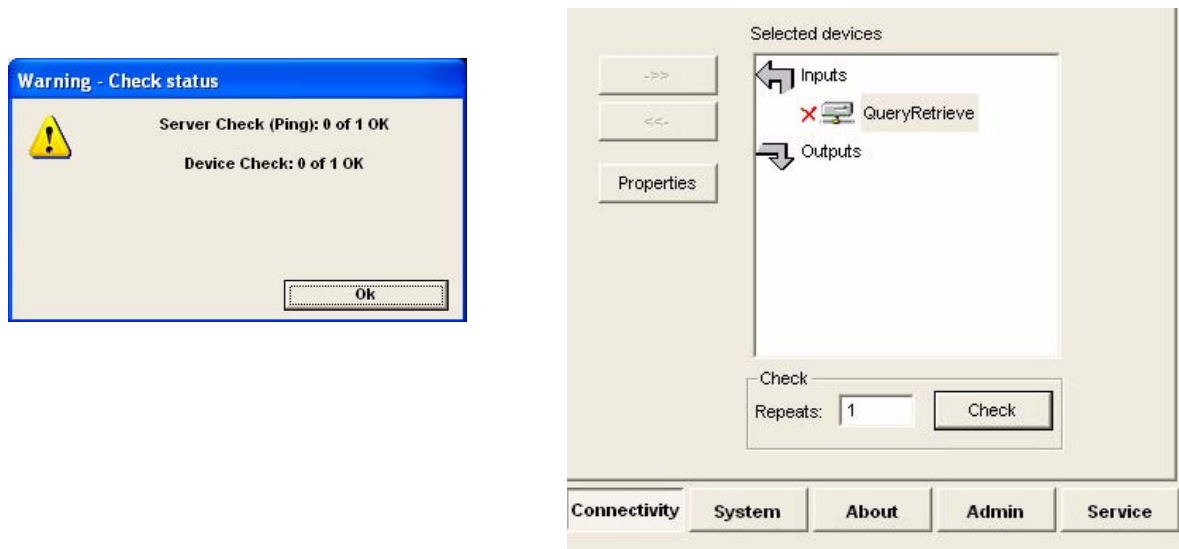

Figure 3-90 Test (Check) Failed
- If the test fails, a pop-up warning is displayed, see left illustration in Figure 3-90. Select **OK** to continue. A red "X" to the left of the Selected devices indicates that the test failed.